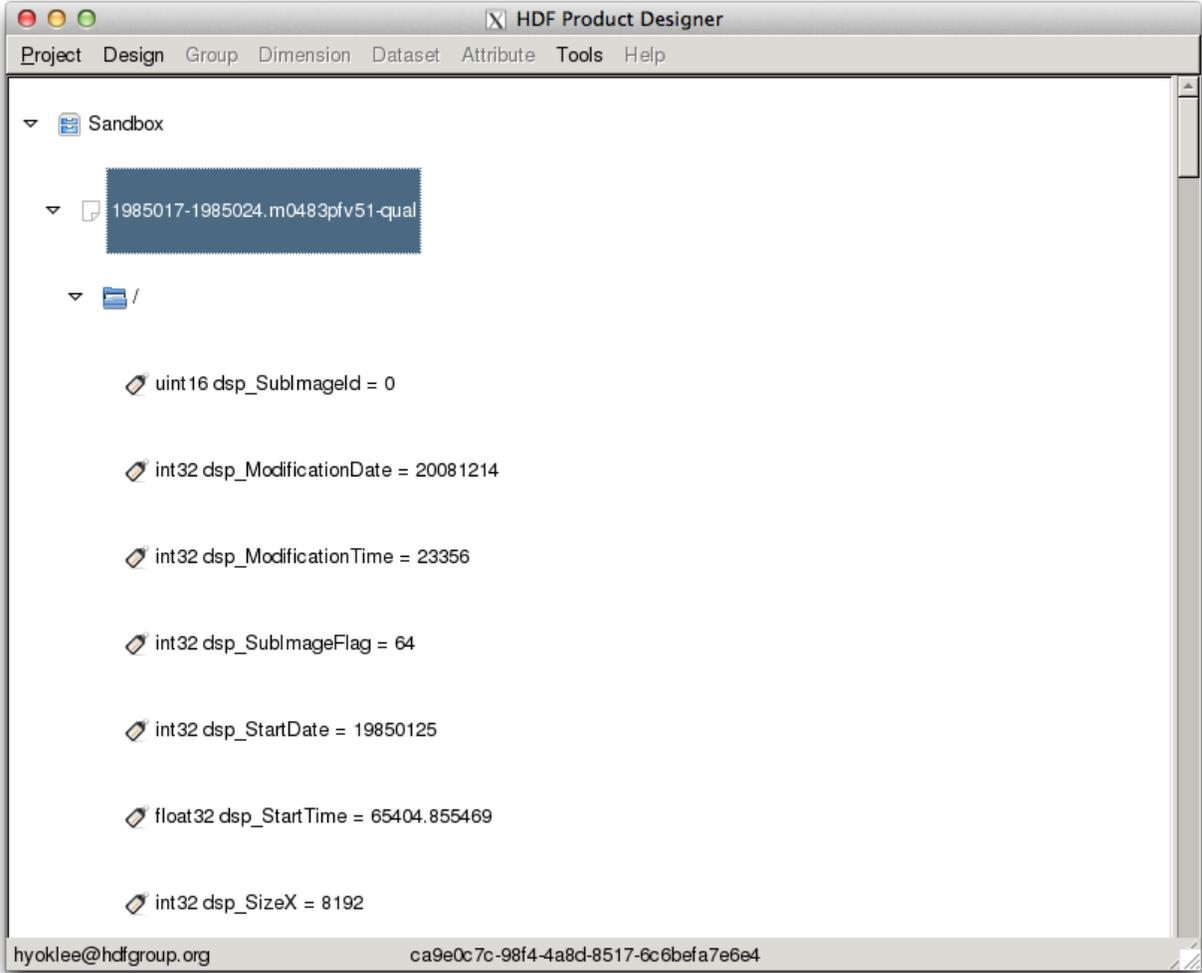

Fig. 5.17: HPD Desktop tree control view with a selected design
1. Select the design item in the tree first (Fig. 5.17).
1. Select a design item in the tree (Fig. 5.17).
1. Select a design item in the tree first (Fig. 5.17).